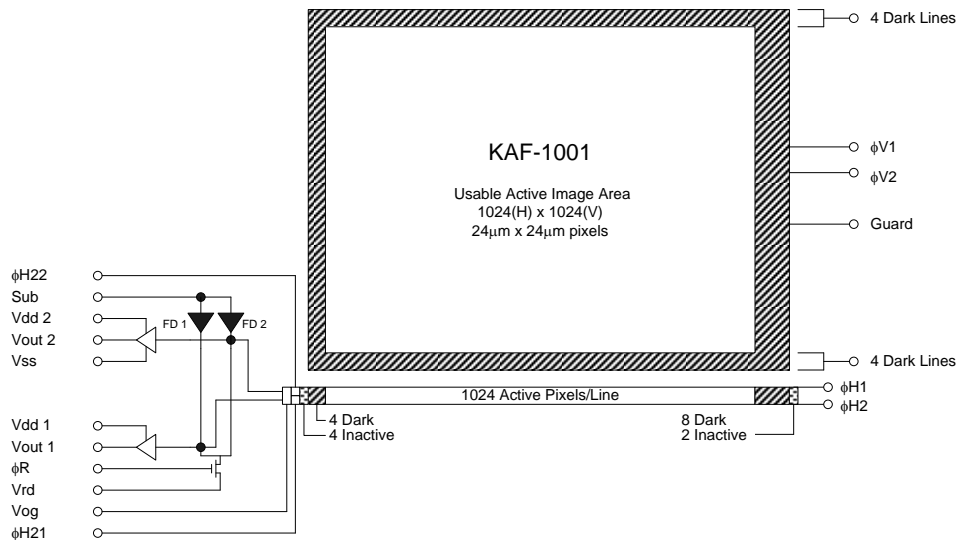

Figure 1: Block Diagram
Refer to the block diagram in Figure 1. The KAF-1001 consists of one vertical (parallel) CCD shift register, one horizontal (serial) CCD shift register and a selectable high or low gain output amplifier. Both registers incorporate true two-phase buried channel technology. The vertical register consists of 24 µm x 24 µm photo-capacitor sensing elements (pixels) which also serves as the transport mechanism. The pixels are arranged in a 1024 (H) x 1024 (V) array; an additional 12 columns (4 at the left and 8 at the right) and 8 rows (4 each at top and bottom) of non-imaging pixels are added as dark reference. Because there is no storage array, this device must be synchronized with strobe illumination or shuttered during readout.